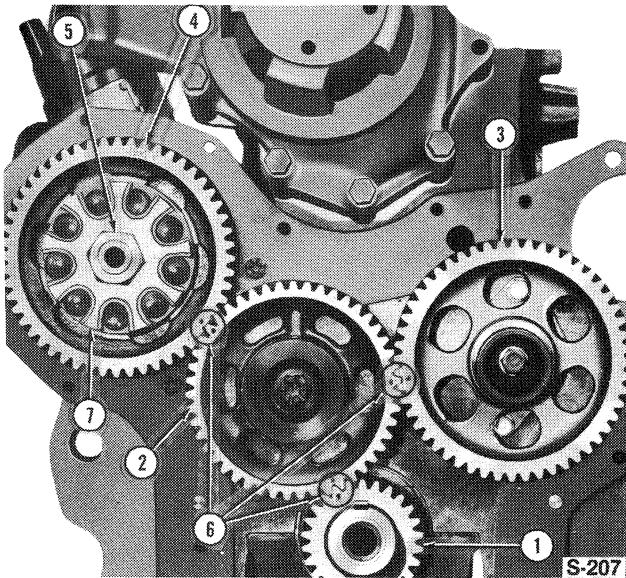
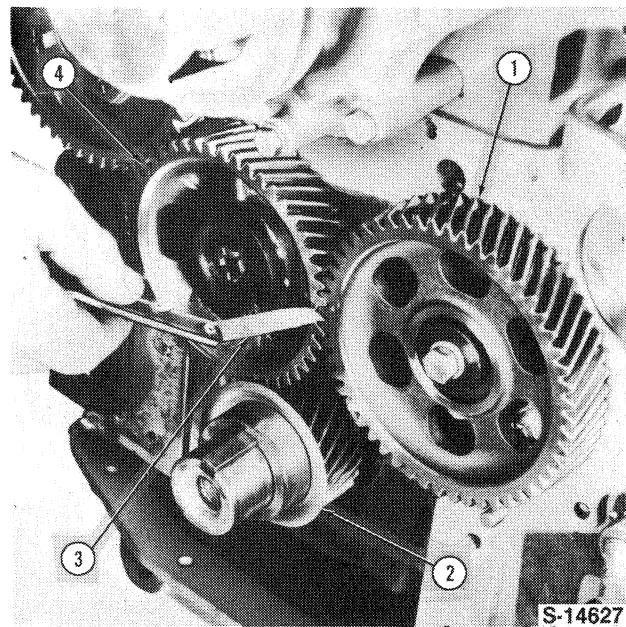

Figure 24
Figure 25
6. Before removing the timing gears, Figure 24, use a dial indicator or feeler gauges to measure the backlash between each set of mating gears, Figure 25. Rotate the gears and check the backlash at four equidistant points on the gears. Renew the gears if the backlash exceeds the specified limits, see "Specifications" — Chapter 3.
Remove the governor driver and distributor-governor drive gear (the retaining nut has left hand threads), the camshaft idler gear, the eccentric on the front of the camshaft gear, and the camshaft gear, Figure 24.
Check the governor driver assembly and outer race for damage or wear. Replace parts as necessary. See Figures 24 and 32.
Distributor Gear and Governor Installation **-Figure 24 and 32**